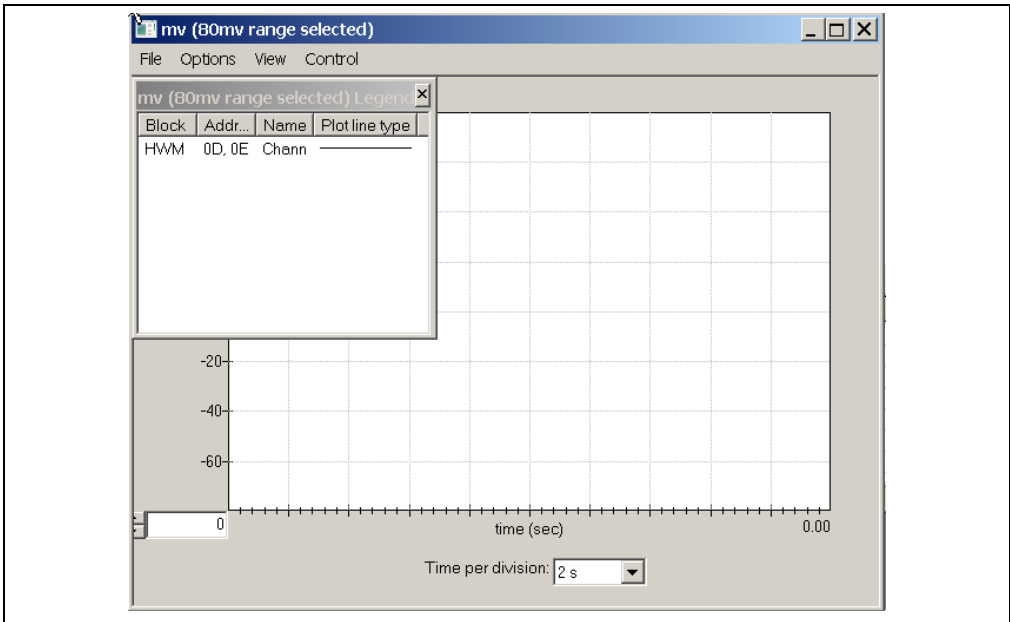

FIGURE 4-3: Register Plot Window.
- 2. Once the desired register is added to be plotted, a graphic plot window will appear with a legend on top, as shown in Figure 4-3. The two windows can be rearranged independently.